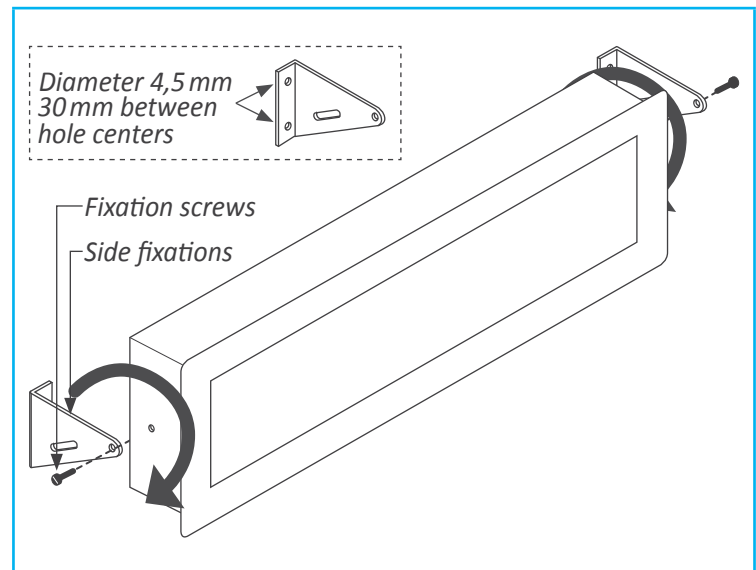

Figure 11 - Wall mount
- Wall mount. Mount the side fixations against the wall, as shown (see Figure 11). Each fixation has 2 holes with 4,5 mm diameter and a separation between hole centers of 30 mm. Once the side fixations are secured against the wall, place the instrument and press the fixation screws slightly. Tilt the instrument to the desired viewing angle and firmly screw the fixation screws.